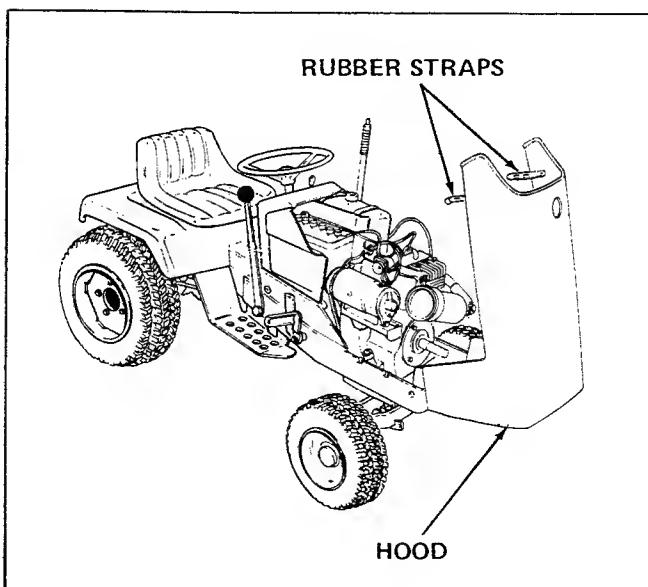

Figure 16. Raising the Hood
The hood may be raised to the position shown in figure 16. With the hood raised, parts in the engine area are easily reached. Raise the hood as follows:
1. Pull the rubber straps (figure 16) down and away from the holdown pins.
2. Raise the hood to the position shown in figure 16.